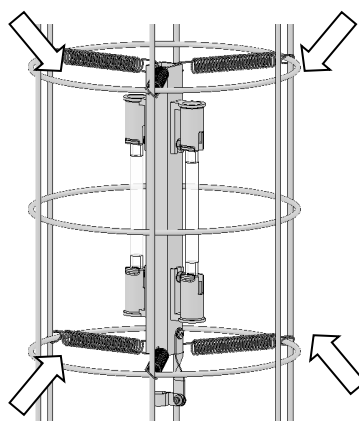

Fig. 2
- ⇒ Unhook the lamp holder springs (Fig. 2)
- ⇒ Screw the six(6) South Pole Plate nuts onto the cage.
- ⇒ Reconnect lamp holder springs (Fig. 2). Be sure to hook springs OVER the cage crossbars.